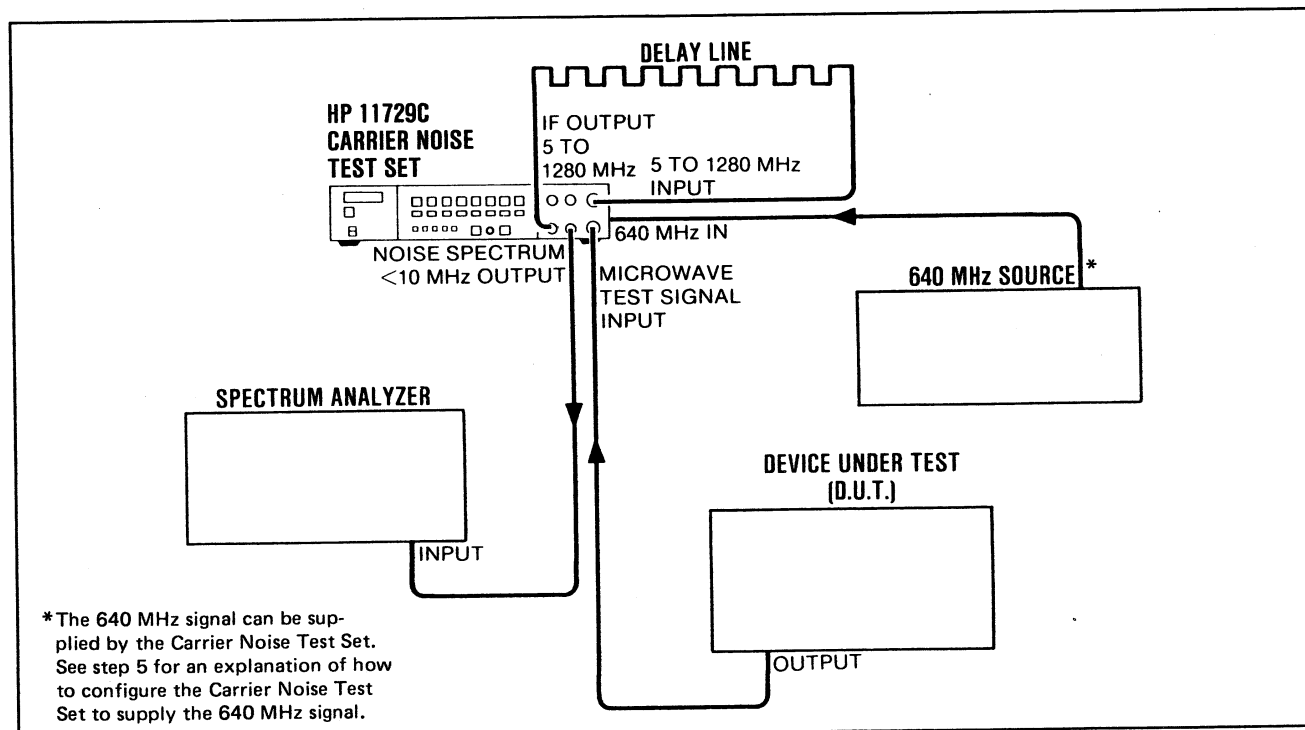

Figure 3-7. Interconnections to the Carrier Noise Test Set When Making a Phase Noise Measurement (Using the Frequency Discriminator Method)
- Figure 3-7 shows interconnections to the Carrier Noise Test Set when making a phase noise measurement.